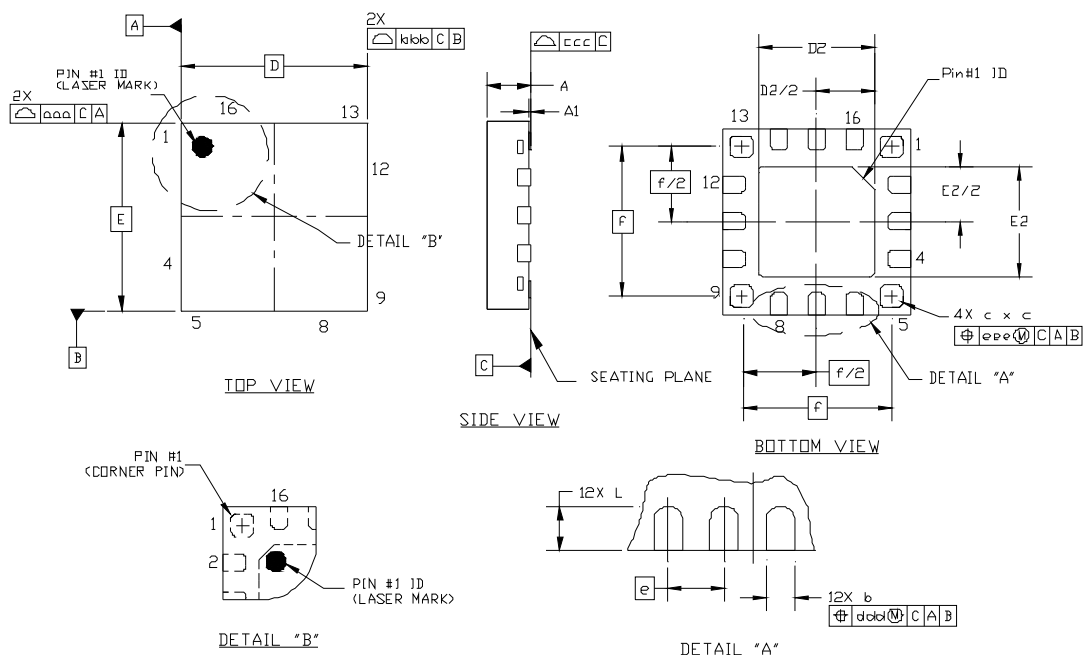

Figure 9. 16-Pin Quad Flat No-Lead (QFN)
Figure 9 illustrates the package details for the Si4708/09-GM. Table 9 lists the values for the dimensions shown in the illustration.
- Updated Figure 9, "16-Pin Quad Flat No-Lead (QFN)," on page 36.